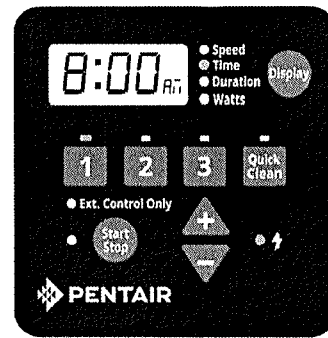

Figure 9: Setting Start Time
4. Press the "1" button again and the display will change to SPEED 1 start time. The "Time" parameter LED will begin to blink. See **Figure 9**.